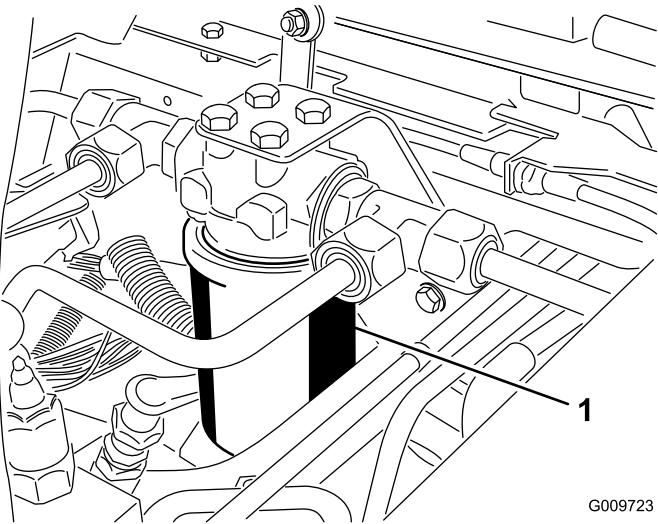
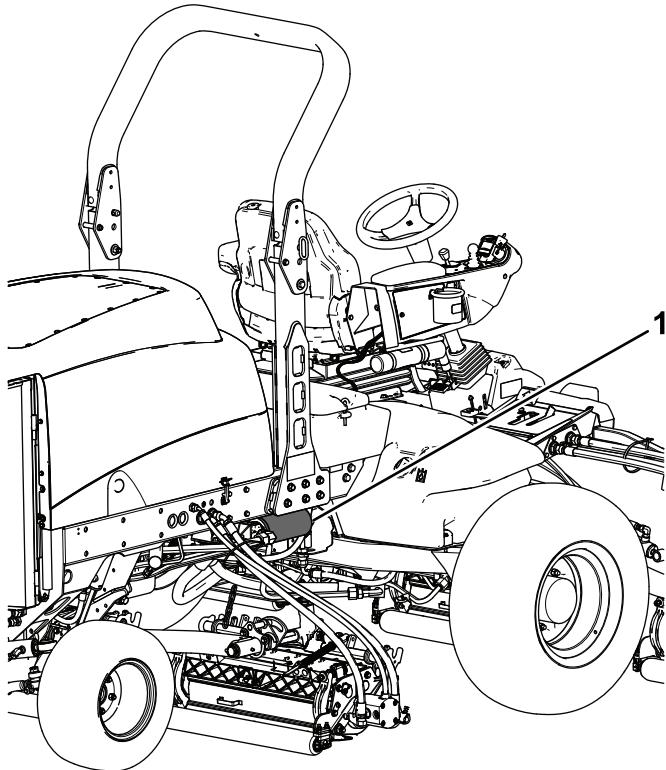

Figure 120
Figure 121
3. Place a drain pan under the filter and remove the filter (Figure 120 and Figure 121).